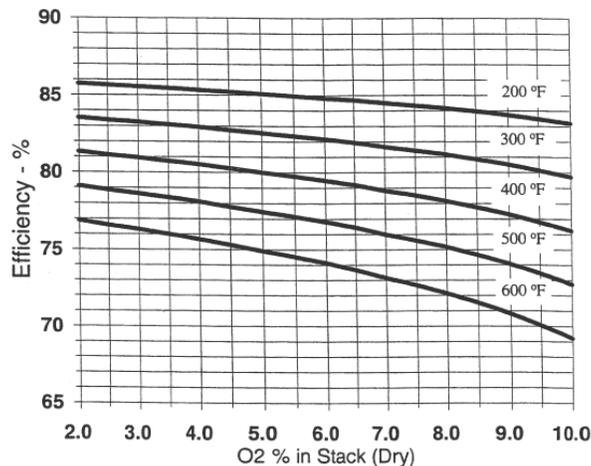

Figure 17: combustion efficiency for Natural Gas as function of O₂ and net stack temperature
4.5.8 Figure 17 shows combustion efficiency as a function of net stack temperature and O₂ in the stack for natural gas. Net stack temperature is the difference between the measured stack temperature and ambient temperature. This graph does not include radiation and convection losses from the boiler or heat exchanger.